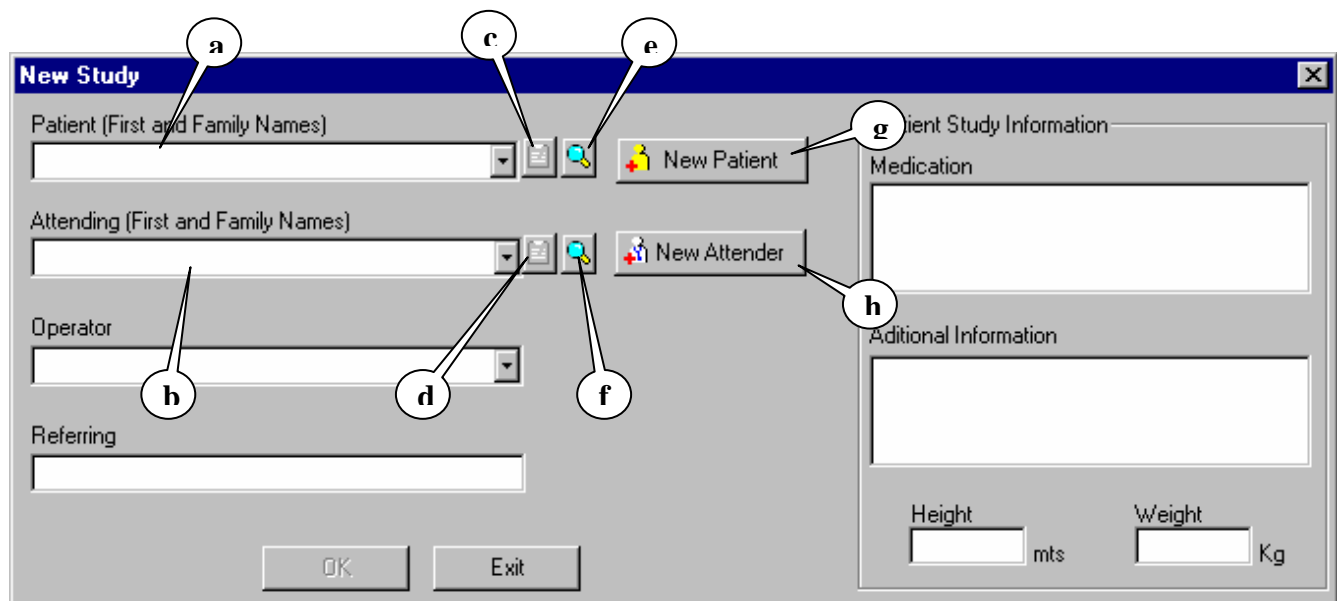
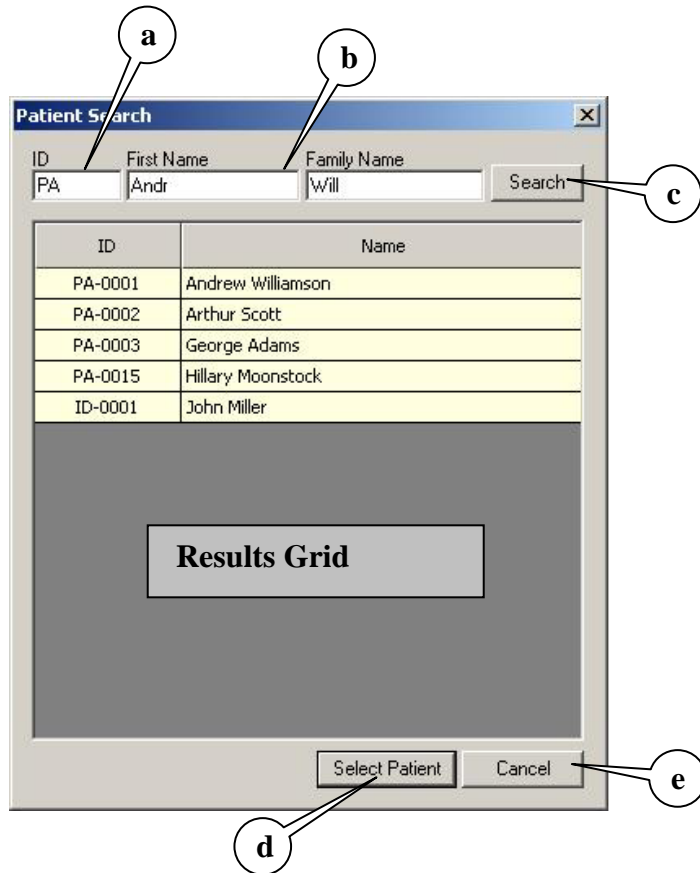
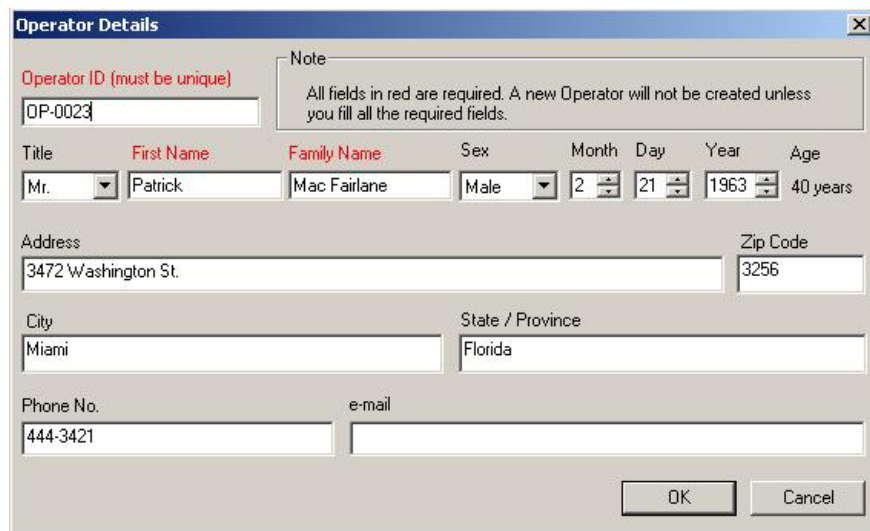

Figure 01
Figure 02
Figure 03
2. In the **Patient** text box (Figure 01-a) type the name of the patient. While writing, the name will be automatically completed with the existing patients from the database. To add a patient click on “New Patient” button (Figure 01-g) and complete the data. (See Section 2.1.4).
3. In the Attendant text box (Figure 01-b) type the name of the physician. The attendant’s name will be automatically completed with the names in the attendant s database. If the attendant is a new one you must click on “New attendant” button (Figure 01-h) and complete the data (See Section 2.1.4).
- a) Click the advanced search button (see **Figure 01-e and f**). The Advanced Search dialog will appear (see **Figure 02**).
- b) Type the ID and patient name in the corresponding fields (**Figure 02-a and b**). For a broader search leave some of the fields empty.
- c) Click the Search button (**Figure 02-c**).
- f) To use the selected Patient or Attendant in the study, click the Select Patient button. (**Figure 02-d**).
- g) To cancel the search simply press the Cancel button (**Figure 02-e**).
Once selected the Patient or the attendant, the user can click the View Details button (see **Figure 01-c and d**). This button will open a dialog with the Patient or Attendant information stored in the database (see **Figure 03**).
If the Patient or the Attendant is not in the database, the user can add them by clicking on the New Patient or New Attendant Button (**Figure 01-g and h**).
- Click on the New Patient button. The New Patient dialog will be displayed (see **Figure 04**). If the button is disabled, the selection must be deleted in the Patient field (**Figure 01-a**).
- Click on the New Attendant button. The New Attendant dialog will be displayed (see **Figure 04**). If the button is disabled, the selection must be deleted in the Attendant field (**Figure 01-b**).